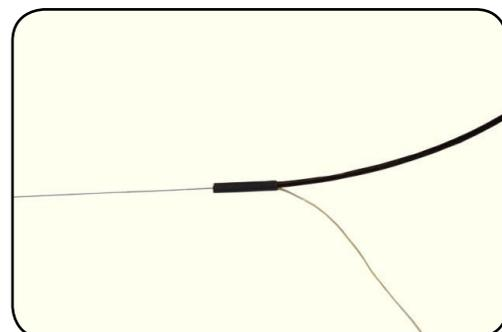

Figure 7
**Step 7:** Place heatshrink flush to the end of the cable and then apply even heat until the tubing is fully shrunk (Figure 7).